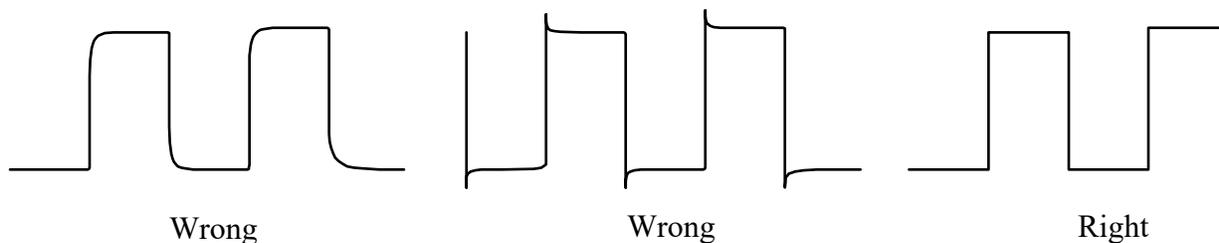

Figure L1.1
- (f) Using the adjustment tool included with the BNC oscilloscope probes gently adjust the compensation control on the probe tip while observing the image displayed on the screen. This tool looks like a small black plastic screwdriver and fits into the hole located near the BNC termination on the probe. Continue to adjust the probe until the square wave has as "flat a top" as possible, as seen on the far right of Fig. L1.1.